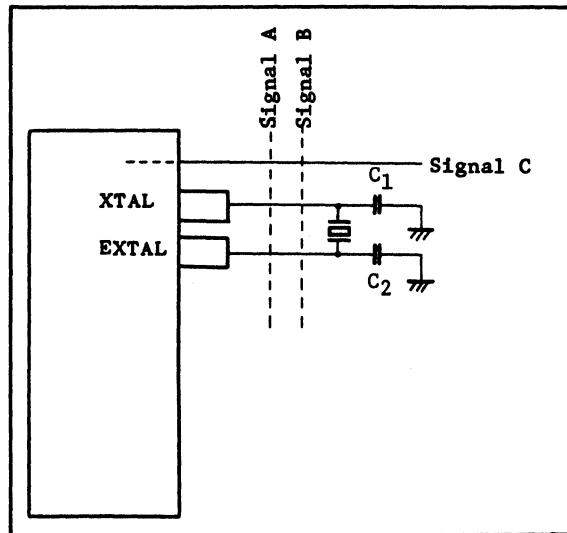

Fig. 3-9 Example of Circuit Causing Trouble in Oscillation
- (1) Locate crystal, ceramic resonator, and load capacity C_1 and C_2 as near the LSI as possible. (Induction of noise from outside to the XTAL and EXTAL pins may cause trouble in oscillation.)
- (2) Wire the signal lines to the neighbouring XTAL and EXTAL pins as far apart as possible.
- (3) Board design of situating signal lines or power supply lines near the oscillator circuit as shown in Fig. 3-9, should not be used because of trouble in oscillation by induction. The resistor between the XTAL and EXTAL, and pins close to them should be $10M\Omega$ or more.